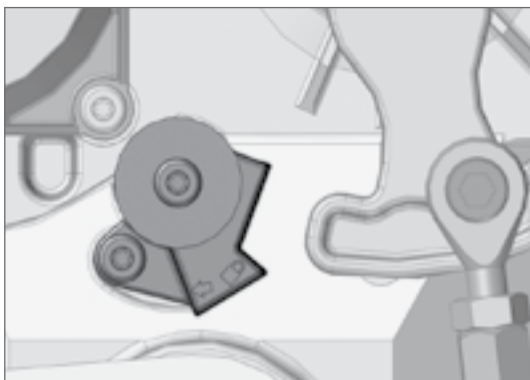

FIGURE 58. LOCK MODE POSITION (BOTTOM)
- For a right-hand boom to be placed in Lock Mode in the raised position, position the top stopper as shown in Figure 58 (similarly for the left-hand lowered locked position)